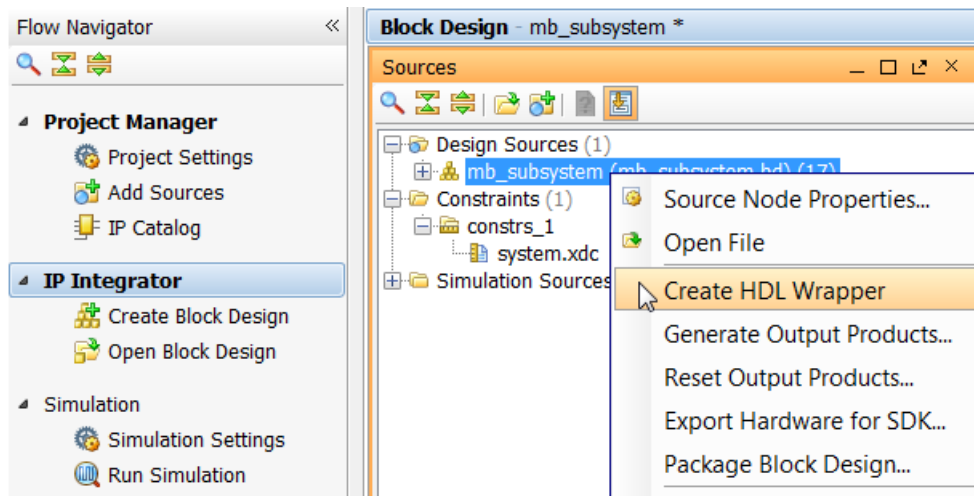

Figure 131: Create HDL Wrapper
2. Under **Design Sources**, right-click your design and click **Create HDL Wrapper** (Figure 131).